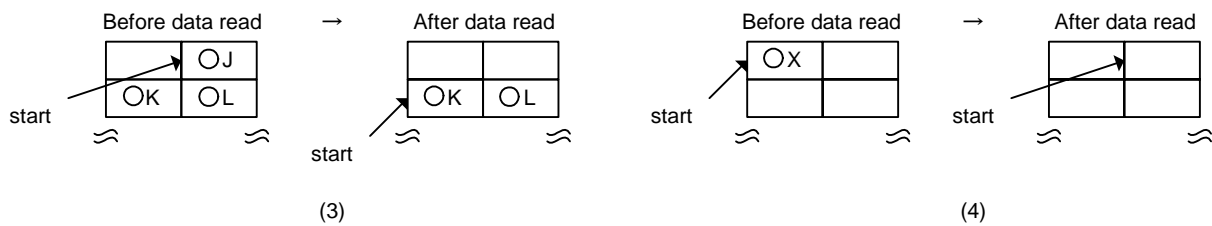

Fig. A2.6.25 FIFO Read Process (Operation requiring caution)
Case (3) of Fig.A2.6.25 shows the word read from memory having a byte boundary, using FIFO_Rd_0,1 registers. Undefined data is output to the High side, and data J is output to the Low side. The read pointer is incremented for a single byte only. Case (4) of Fig.A2.6.25 shows the word read from memory using FIFO_Rd_0,1 registers if a single byte of data remains but no byte boundary exists in the memory. Data X is output to the High side, but undefined data is output to the Low side. The read pointer is incremented for a single byte only.